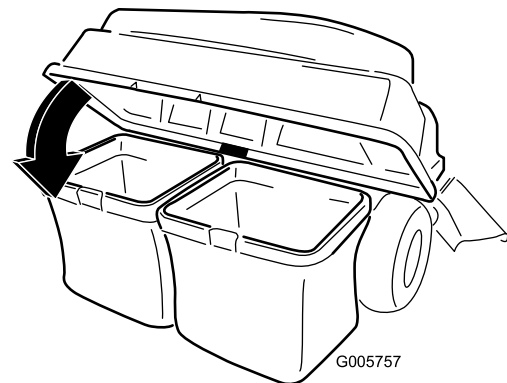

Figure 19
3. Lower the bagger top onto the bag (Figure 19).